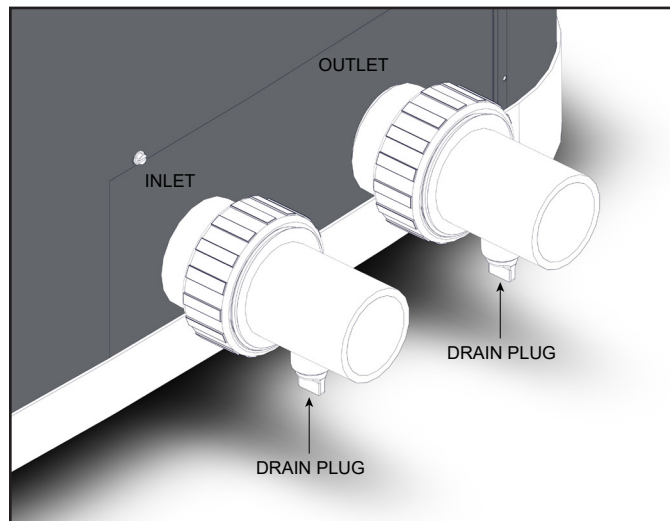

Figure 6. Water Connections/Drain Plugs
5. Drain plugs are located on each union fitting as shown in Figure 6 for draining the system during winterizing.
**NOTE:** While it is possible to mount the upper union with the drain plug vertically, the manufacturer has determined that installing both unions with the drain plugs facing down, as shown in Figure 6, provides for the best draining of the system.